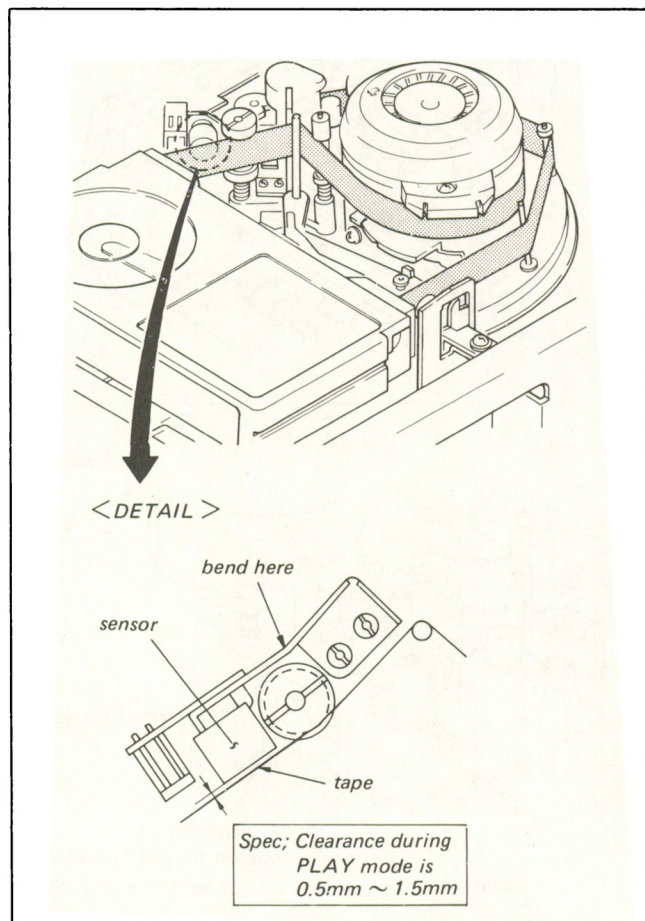

Fig. 6-10. Tape end sensor position adj.
3. Confirm that clearance between tape and sensor is as specified in Fig. 6-10.
4. Bend the part shown in Fig. 6-10 for the adjustment.